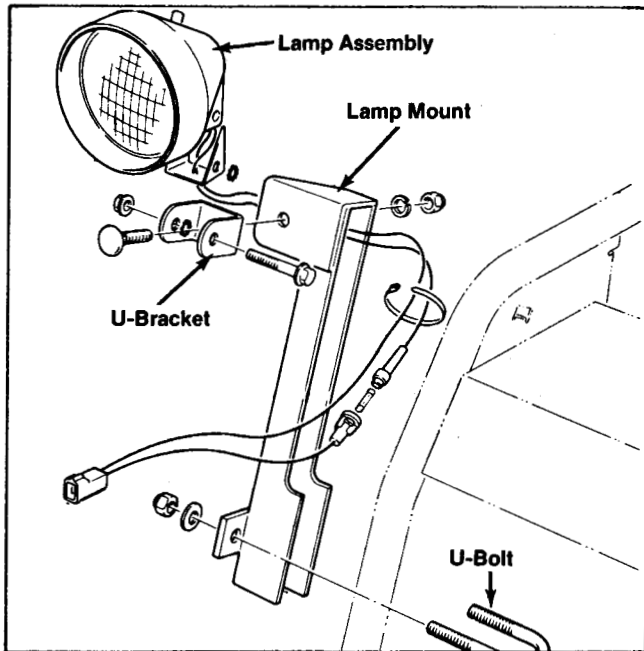

Figure 127
1. Using the U-bolt, washers and nuts supplied in kit, loosely secure the lamp mount to the handle as shown in Figure 127.